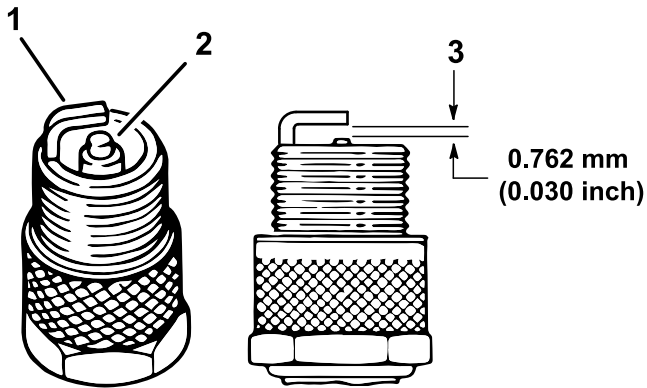

Figure 26
1. Look at the center of the spark plugs (Figure 26).
3. Check the gap between the center and side electrodes (Figure 26).
Note: Bend the side electrode (Figure 26) if the gap is not correct.
3. Install the spark-plug wire (Figure 26).